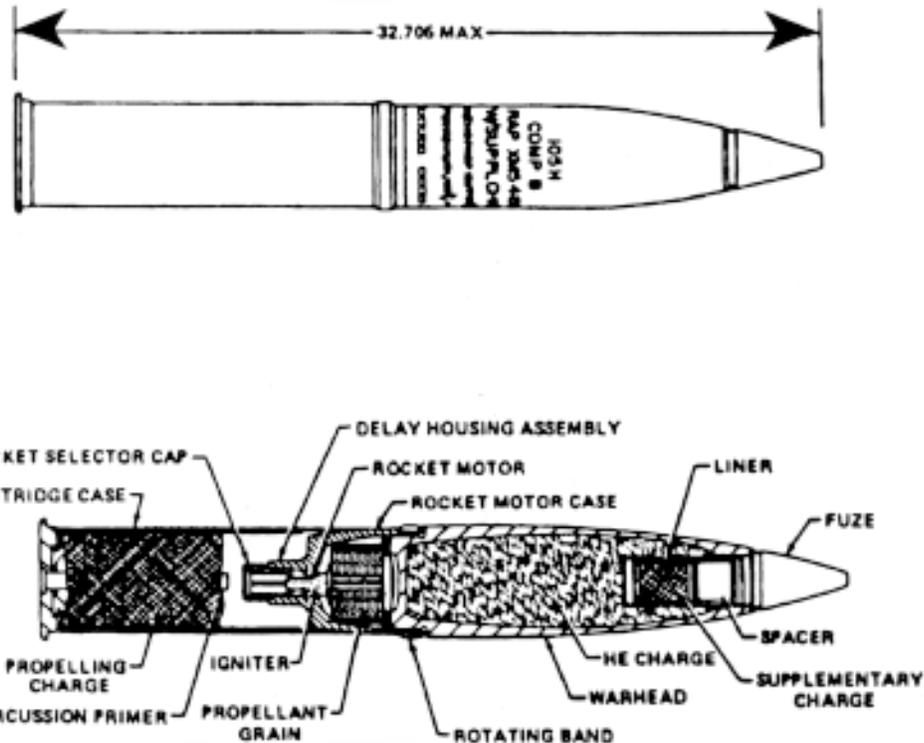

Figure 2-10. 105-mm HERA, M548 round
g. High Explosive Rocket-Assisted (HERA) M548 round. The M548 is a high explosive, rocket-assisted round with extended range capability. It is used for fragmentation, and blast effects in support of infantry and armored units. The projectile portion of the cartridge consists of two pieces--a streamlined warhead and a rocket motor body in a boattail design. The warhead is filled with cast Composition B with a deep cavity and supplementary charge. The rocket motor body contains the rocket grain and rocket ignition system inside a spike at the rear of the body (Figure 2-10). The cartridge case contains a primer and five individually bagged and numbered propelling charge increments.